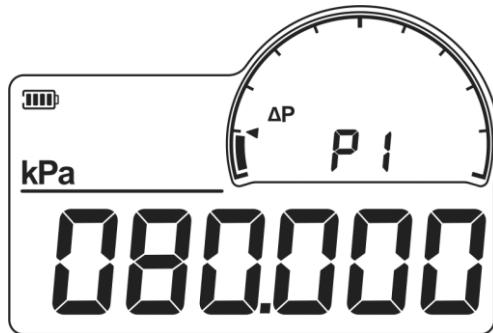
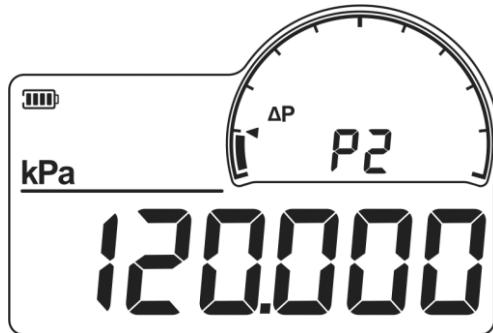

Figure 14 Leak test initial pressure
Figure 15 Leak test end pressure
2. After the pressure leak test is completed, as shown in Figure 13, the P logo appears in sub display area, and the pressure difference value is displayed in the main display area. When it ends, short press the Down or Right button to switch and display the initial pressure value P1 as shown in Figure 14, the end pressure value P2 as shown in Figure 15, and the pressure difference value is P.